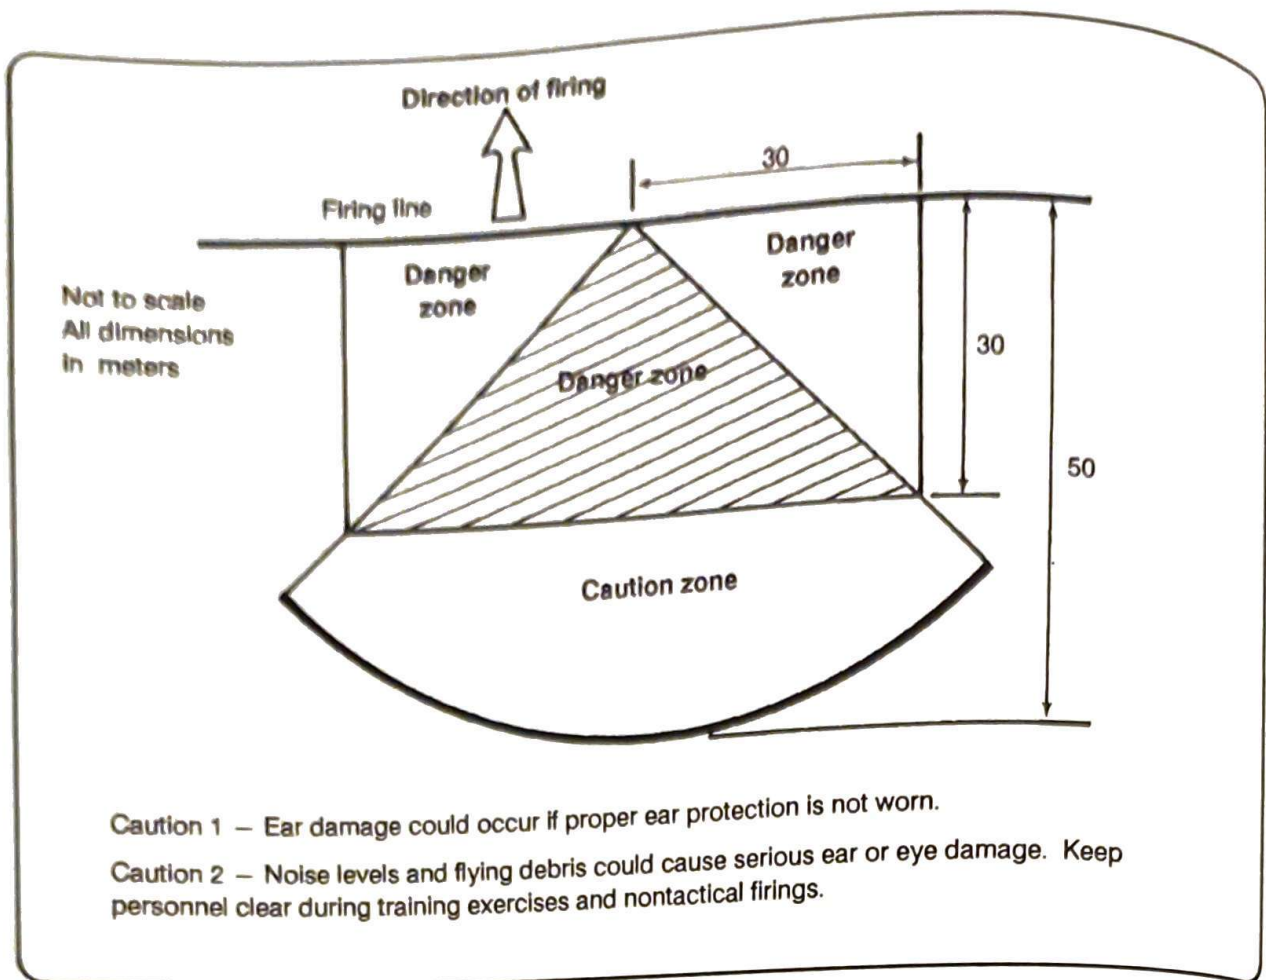

Figure 2-1. Dragon backblast area.
(3) DO NOT fire at targets closer than 65 meters because the warhead will not be armed.
(4) When mating the tracker to the round, use extreme care not to *accidentally fire the round*.
(5) DO NOT allow personnel or equipment forward of the firing position.
(6) DO NOT perform PMCS with the tracker mated to the round.
(7) All personnel within 50 meters of the weapon must wear properly inserted earplugs.
(8) DO NOT fire the Dragon over friendly troops or vehicles.
c. The Dragon backblast area extends 50 meters to the rear and 30 meters to the flanks of the launcher (Figure 2-1). This area is divided into two zones: a danger zone and a caution zone.
Safety precautions must be observed at all times. During training, the soldiers must practice and observe the same backblast area precautions for the LET/LES as they would for live fire (paragraph 2-1) (Figure 2-1). The training equipment generates sound and pressure levels that can damage hearing. Hearing protection must be worn at all times by personnel on or about the firing area.